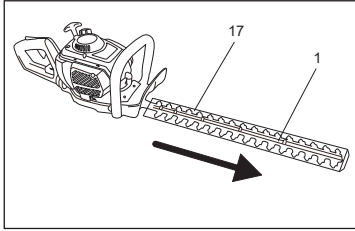

Fig. 1
1. Remove the blade cover (17) from the cutting device (1) before operation (Fig. 1).
**NOTE: Always attach the blade cover (17) when the product is not in use, for and transportation. To attach the blade cover, align and push the blade cover onto the cutting device (1).**